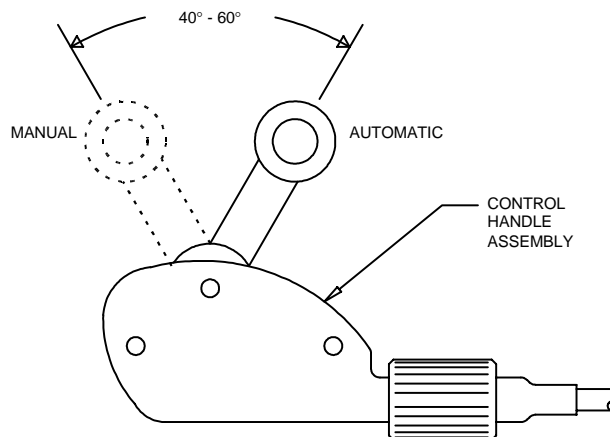

Figure 2. Control Handle Operation
- D. Move the control handle to the AUTOMATIC position for automatic operation of the shoulder straps. In this mode, the shoulder straps will pay out and retract, and will lock only when accelerated at typically 1.5Gs. (See Table 1, Leading Particulars, of the specific Supplement.) The reel will automatically unlock to permit unrestricted movement when the force is released (Figure 2).
- E. Move the control handle to the MANUAL position to lock the shoulder straps. The control handle must be moved to the AUTOMATIC position to release the straps (Figure 2).